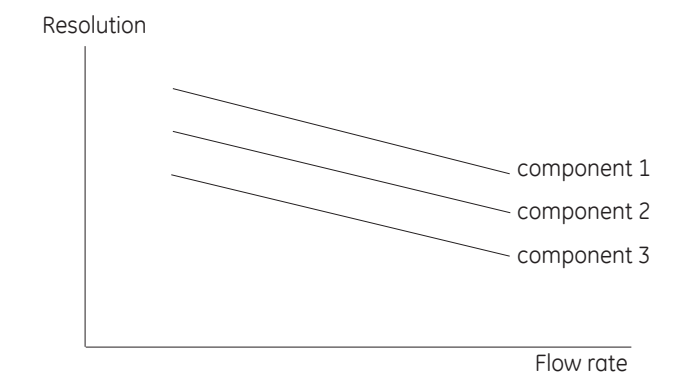

Fig 4.
- If necessary, resolution can be increased by reducing the flow rate (Fig. 4, on page 3).